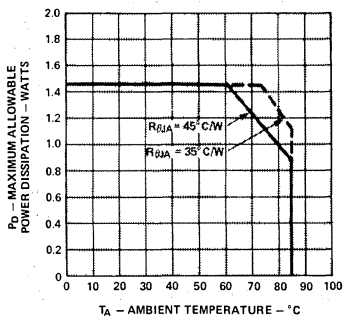

Figure 2. Maximum Allowable Power Dissipation vs. Temperature
2. The device should be derated linearly above 60°C at 22.2 mW/°C. This derating is based on a device mounted in a socket having a thermal resistance from case to ambient at 25°C/W per device. See Figure 2 for power deratings based on a lower thermal resistance.
The HDSP-245X series displays are available in standard ceramic dual-in-line packages. They are designed for plugging into sockets or soldering into PC boards. The packages may be horizontally or vertically stacked for character arrays of any desired size. HDSP-245X series displays utilize a high output current IC to provide excellent readability in bright ambient lighting. Full power operation ($V_{CC} = 5.25V$, $V_B = 2.4V$, $V_{COL} = 3.5V$) with worst case thermal resistance from IC junction to ambient of $45^\circ\text{C}/\text{watt}/\text{device}$ is possible up to ambient temperature of 60°C . For operation above 60°C , the maximum device dissipation should be derated linearly at $22.2\text{ mW}/^\circ\text{C}$ (see Figure 2). With an improved thermal design, operation at higher ambient temperatures without derating is possible.